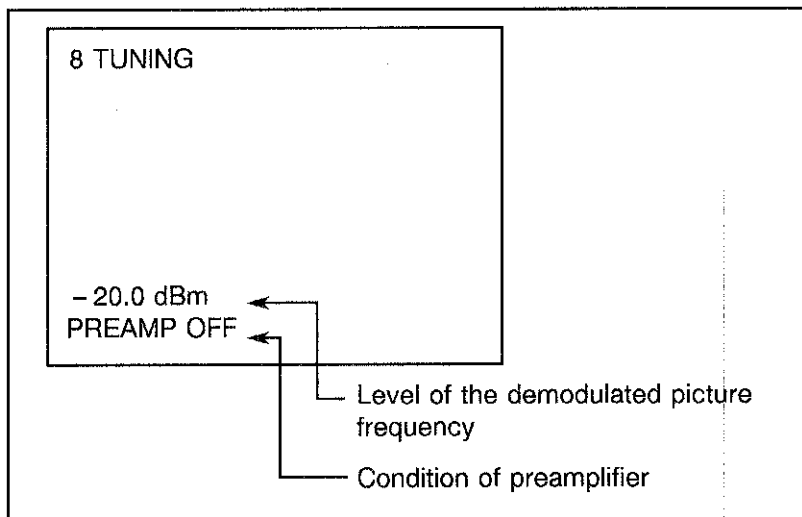

Figure 8-3 Tuning level display
**1** TUNT LVL ... Displays the tuning level. The level of the demodulated picture frequency and the condition of the preamplifier (ON/OFF) are displayed on the OSD. (See Figure 8-3.)